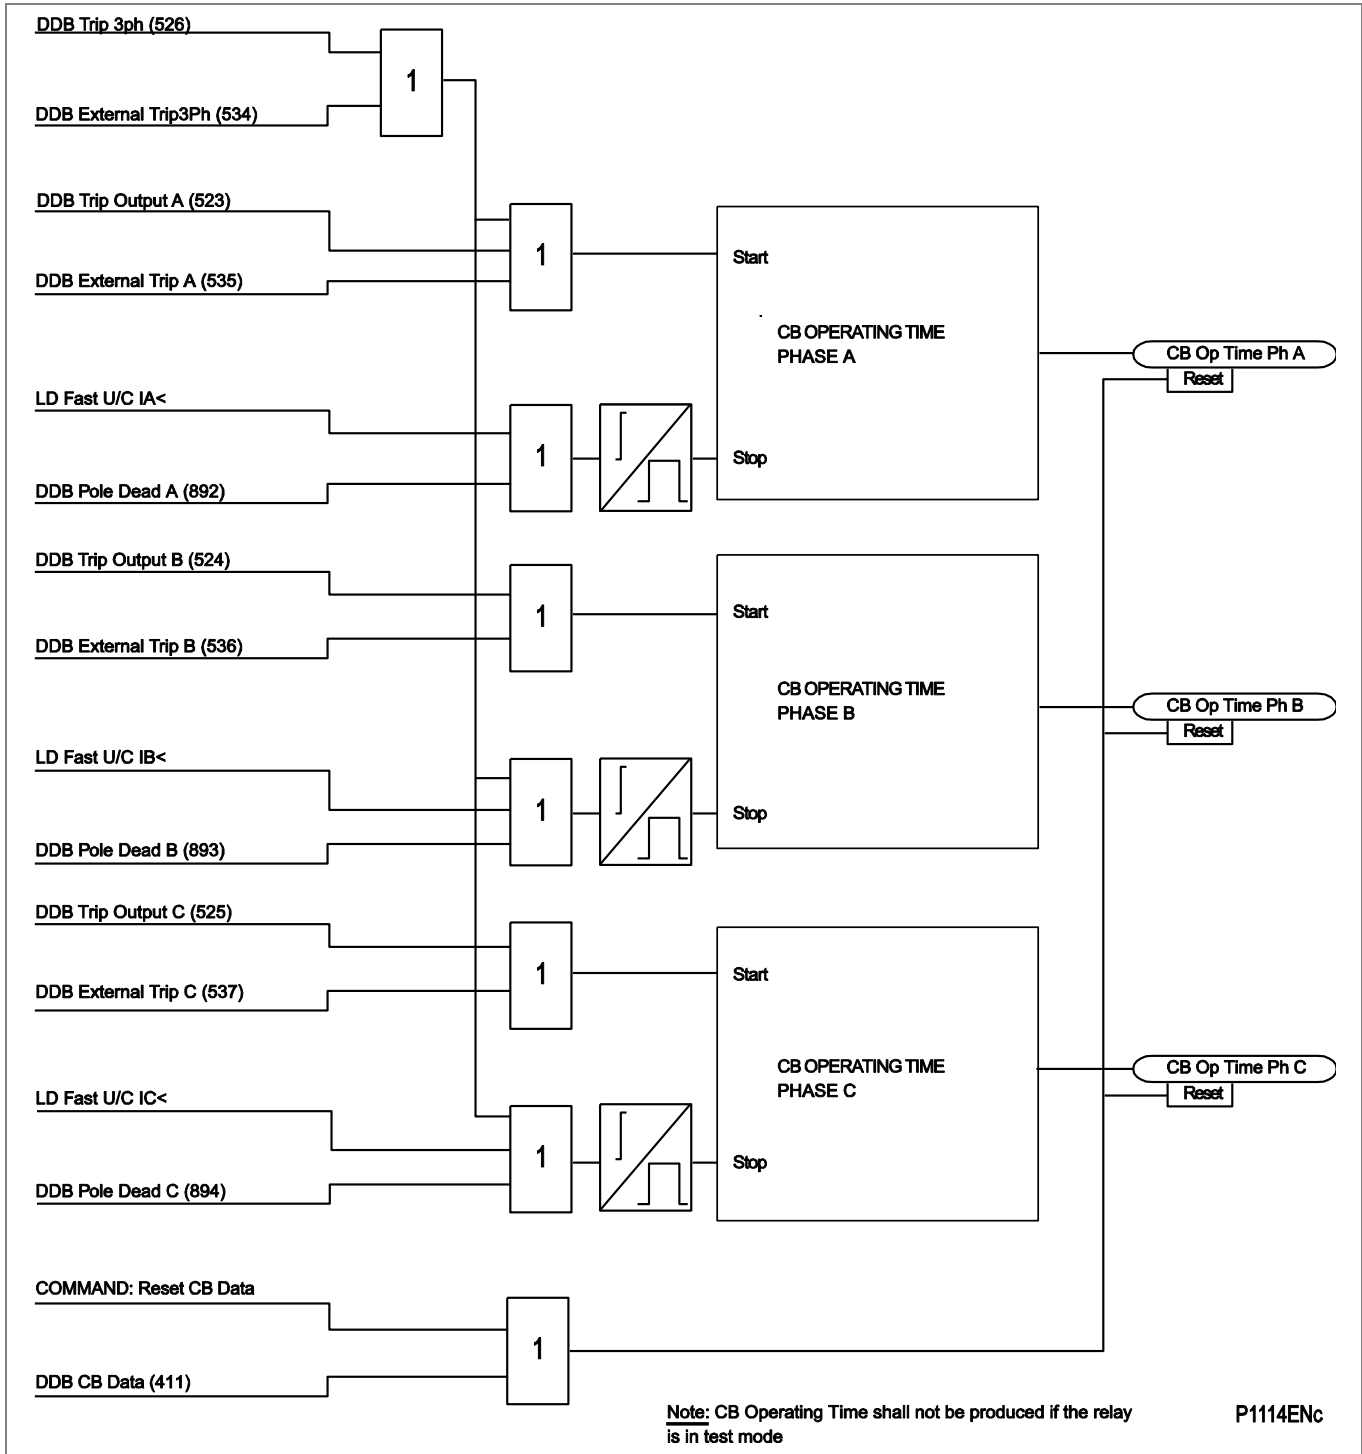

Figure 2 - Circuit breaker condition monitoring - operation time
- Figure 2 - Circuit breaker condition monitoring - operation time